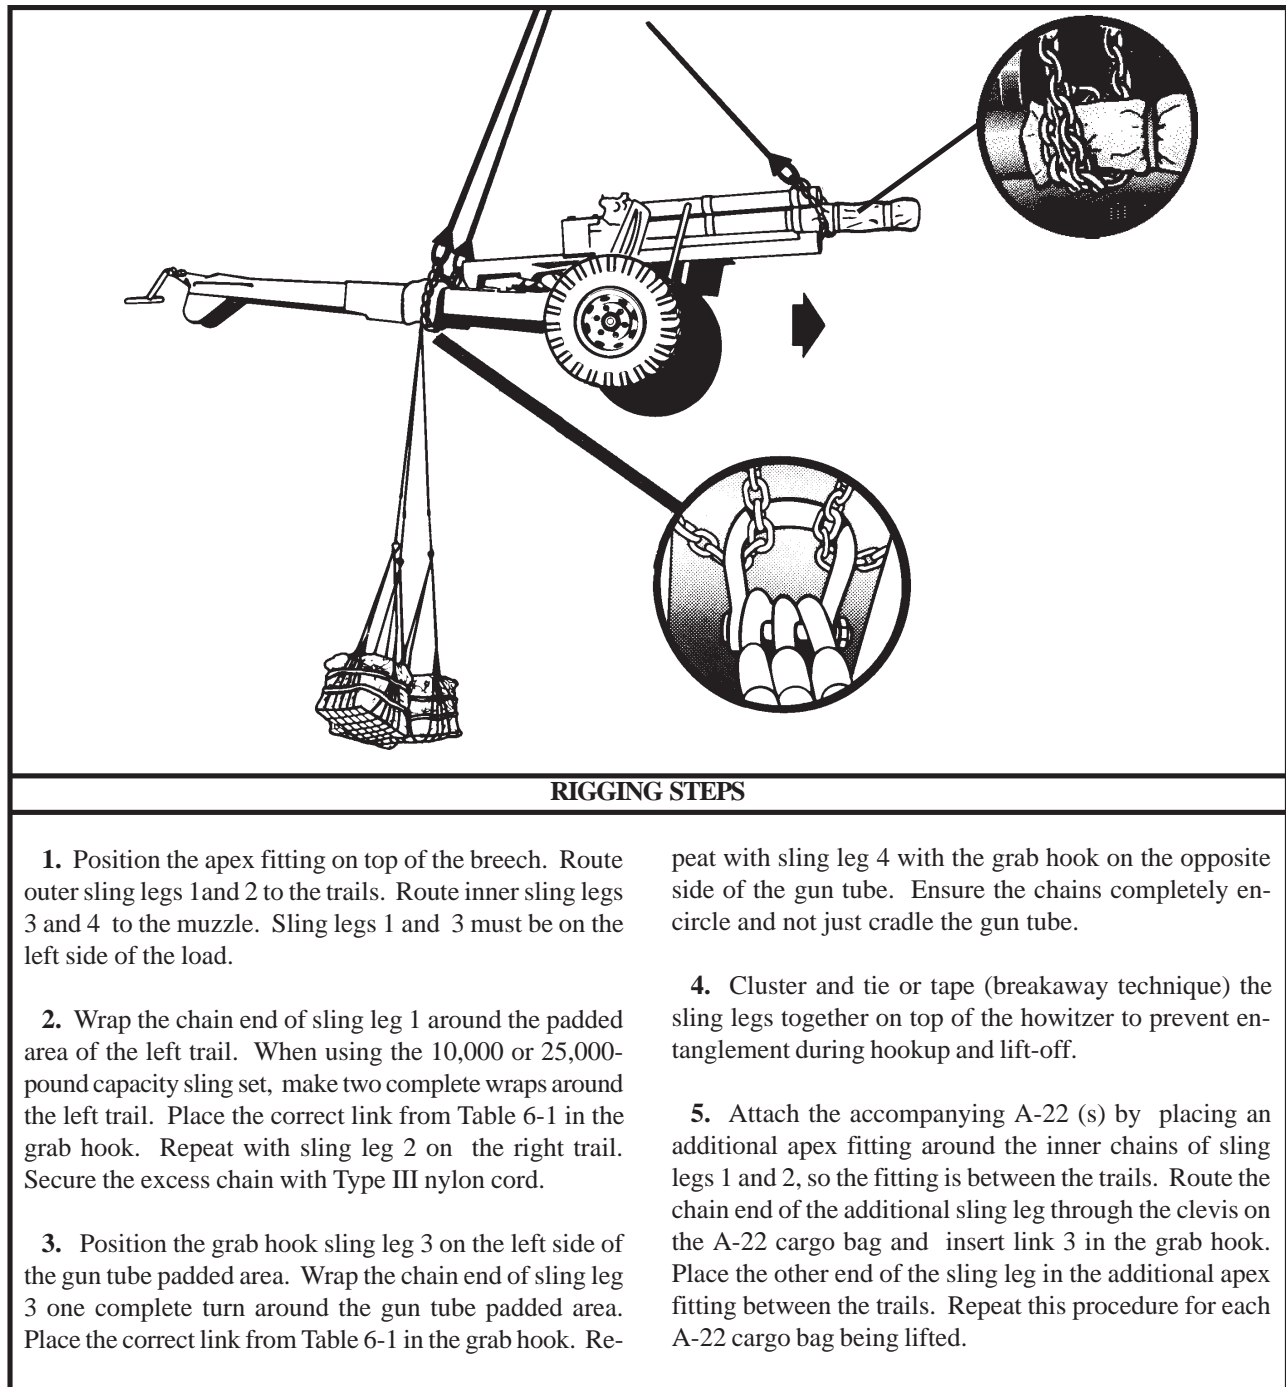

Figure 6-1. M101A1 105-MM Howitzer
(2) **Rigging.** Rig the load according to the steps in Figure 6-1.
(4) **Derigging.** Derigging is the reverse of the preparation and rigging procedures in steps d (1) and d (2).